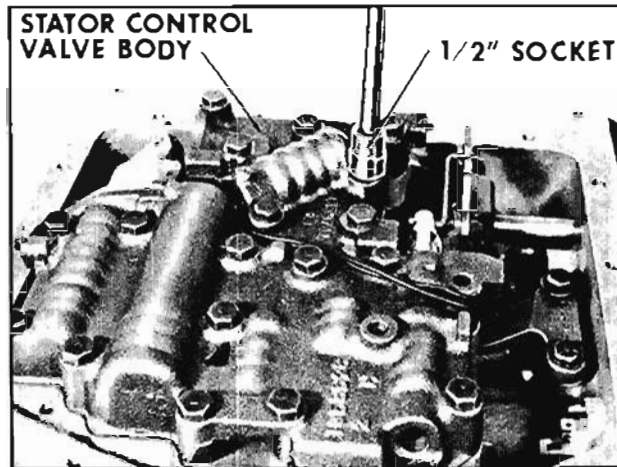

Fig. 6-463 Installing Stator Control Valve Body
7. Install the seven bolts retaining the stator control valve body. Torque bolts 8 to 11 ft. lbs. (Fig. 6-463)